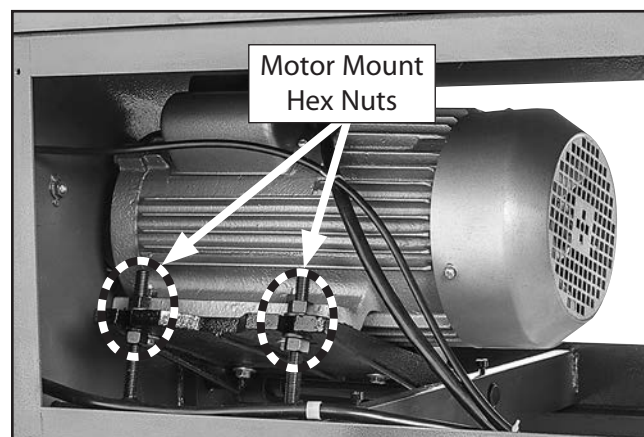

Figure 50. Front cabinet cover removed to access motor.
3. Remove front cabinet cover to access motor, as shown in **Figure 50**.
5. To adjust V-belt tension, loosen both top motor mount hex nuts (see **Figure 50** on **Page 38**), then adjust bottom hex nuts to raise or lower motor.